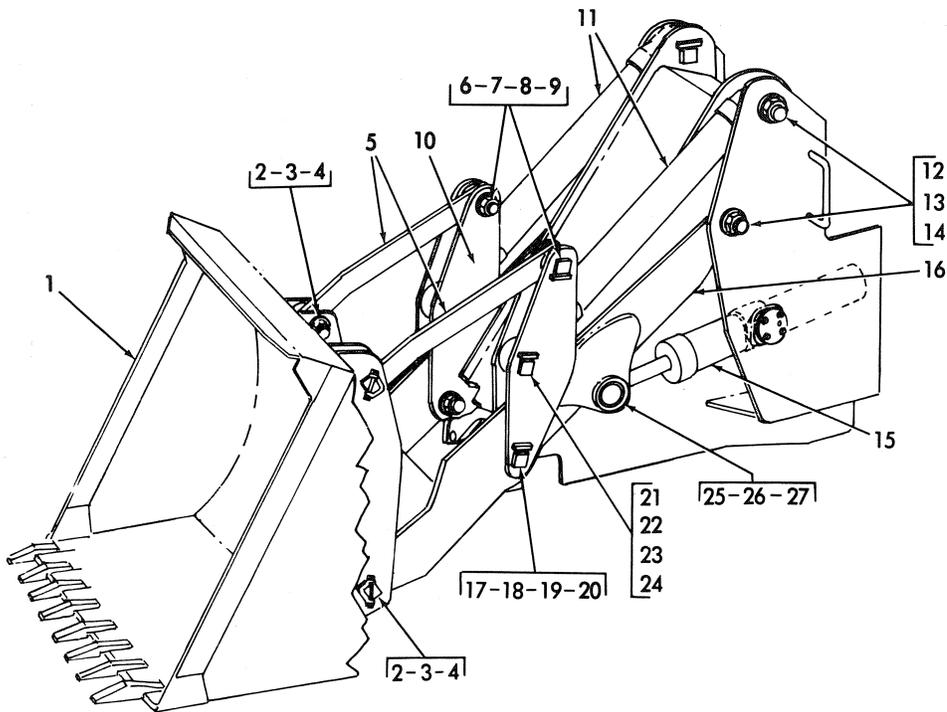

FIG. 12 CROSS AND DUMP LINKS - LOCATION (TYPICAL)
Attach hoist to dump link, Fig. 12 (5). Remove bucket pivot pin retaining capscrew (2) and locknut (4). Remove pivot pin (3).
Operate loader and place bucket on flat surface in full dump position. Be sure cross links, Fig.12(10) are resting forward on boom stops. Place bucket and